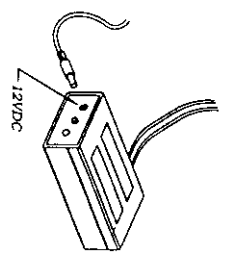

Figure 4-1
- \* PLUG the connector into the receiver at receptacle marked 12VDC. (Figure 4-1)